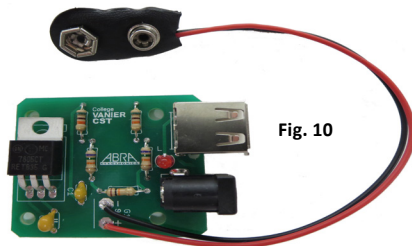

Fig. 10
10. Solder the 9 volt battery clip Red wire into the 9V + terminal as per fig.10.
Solder the 9 volt battery clip Black wire into the 9V – terminal as per fig. 10.